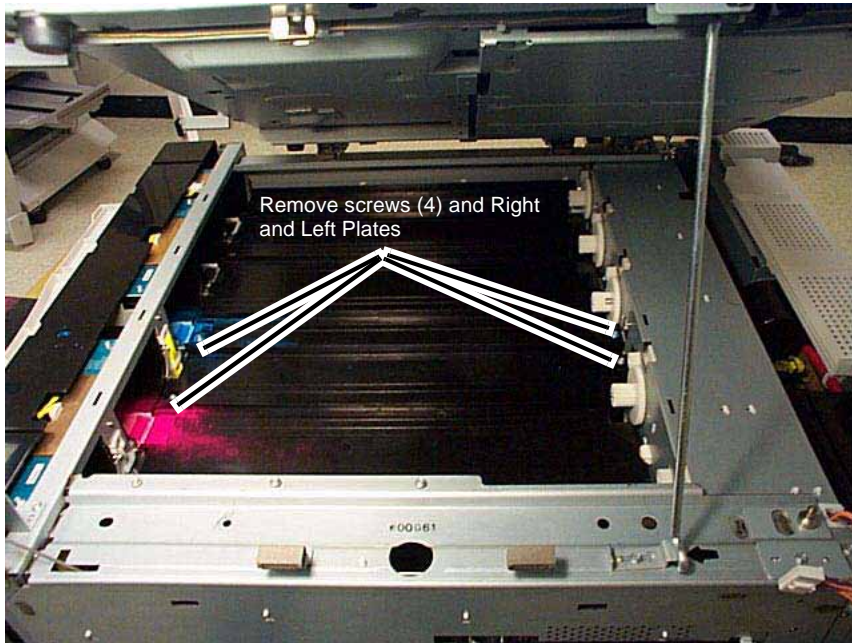

Figure 3 Removing the Right and Left Plates
6. Slide out Toner Cartridges (5).
7. Remove the Left and Right Plates (Figure 3).